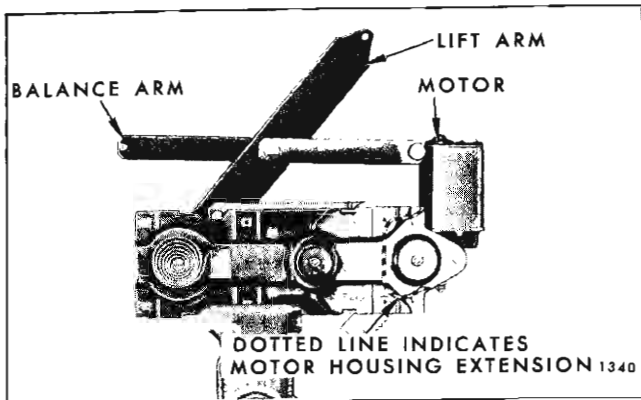

Fig. 1D77—Door Window Regulator and Electric Motor Assembly
2. Remove remote control attaching bolts (Fig. 1D78).